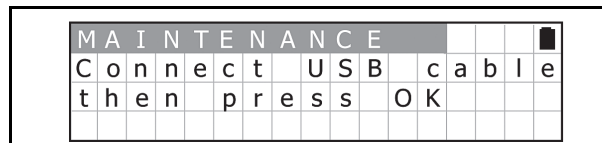

Figure 37 Standby Screen 4
3. Ensure that the LCD displays the Standby Screen (See Figure 37).